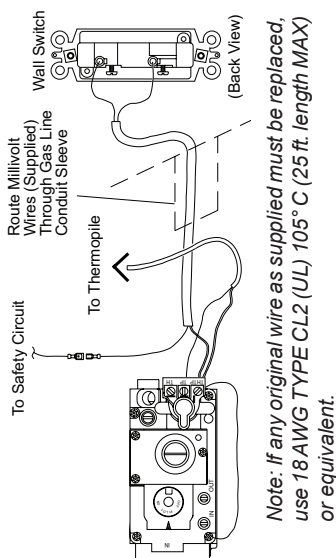

Figure 13 - Wall Switch Wiring Diagram
2. Using wire and connectors provided, attach red wire to terminal marked TH/TP on control valve. Attach white wire to blade connector on open end of safety circuit wiring (see Figure 13, page 12, and *Wiring Diagram*, page 31).
2. Disconnect wall switch wires from TH/TP terminals on control valve and blade connector on safety circuit wiring (see Figure 13 and Wiring Diagram on page 31).